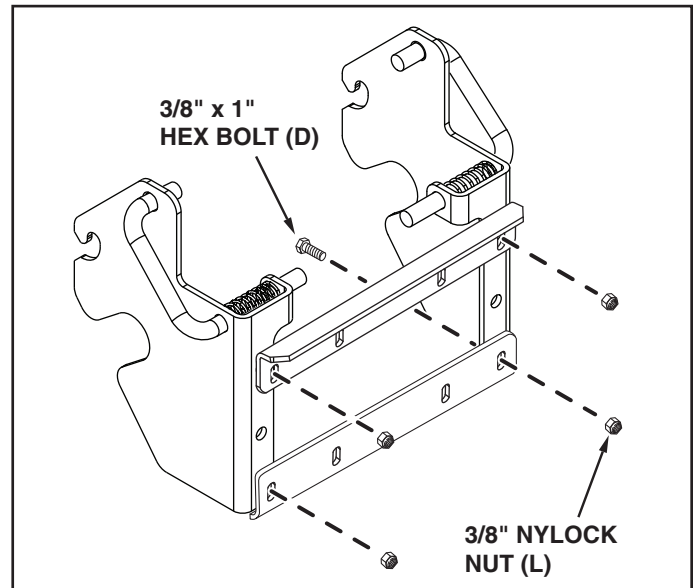

FIGURE 11
STEP 1: (SEE FIGURE 11)
- Assemble one slotted angle support bracket to the top set of holes in the quick attach brackets using two 3/8" x 1" hex bolts (D) and 3/8" nylock nuts (L). **Do not tighten**
- Assemble the other slotted angle support bracket to the bottom set of holes in the quick attach brackets using two 3/8" x 1" hex bolts (D) and 3/8" nylock nuts (L). **Do not tighten.**